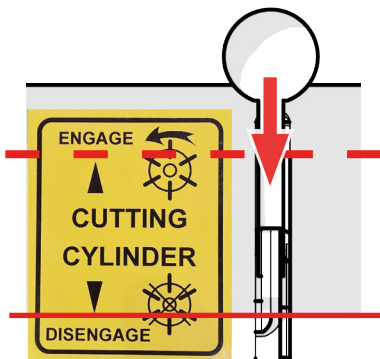

Fig. 12F - Disengage the cylinder lever.
9. To *stop the cylinder spinning*, pull the Cylinder Lever towards the rear to the 'disengage' position. Alternatively, release the OPC (Fig. 12F).